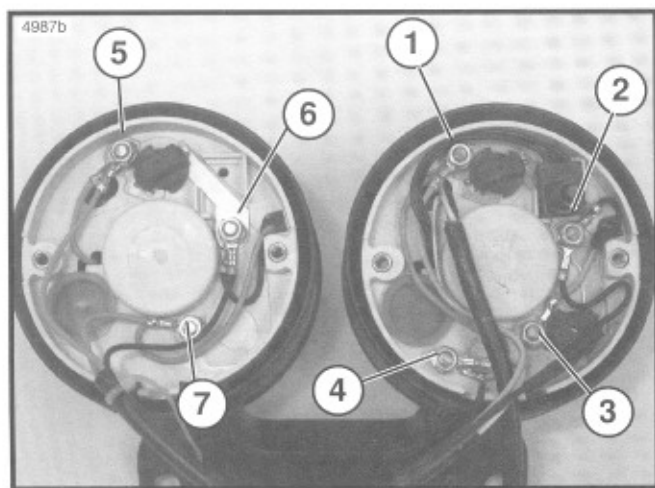

Figure 7-92. Speedometer and Tachometer
5. See Figure 7-92. Remove nuts from terminal studs 1, 2, and 4. Remove wires from studs. On vehicles where speedometer wires may have been wired directly into the speedometer, cut the wire approximately 1" from the speedometer. Strip 3/16" off of end of wire and crimp the ring terminal from the new speedometer kit onto the wire using the Packard crimper 115 (HD-38125-8) using the 20-18 crimping die for the core crimp.
3. See Figure 7-92. Install wires back on terminals 1, 2, and 4.
2. See Figure 7-92. Remove 9/32" nuts from terminal studs 5, 6, and 7. Remove wires from studs.
3. See Figure 7-92. Install wires back on terminals 5, 6, and 7.